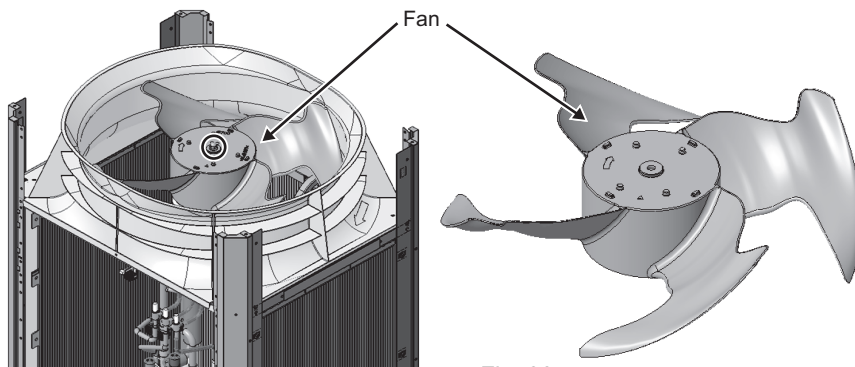

Fig. 30
- (7) Remove the fan. (One nut: Fig. 30)